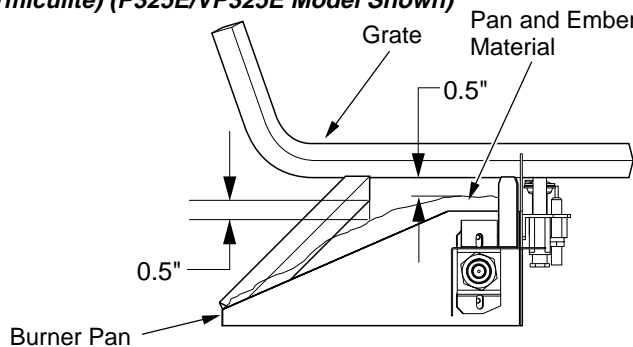

Figure 22 - Pan and Ember Material Clearances (P325E/VP325E Model Shown)
4. Place just enough to cover the entire surface and leave about a 1/2 inch gap under the lower grate members to allow air to flow (see Figure 22).